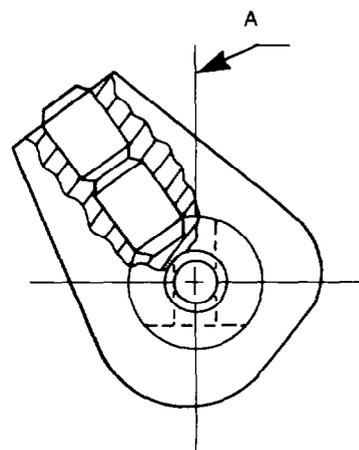

Figure 71 — Throttle Shaft Stop Lever Location
- c. If the throttle shaft stop lever was removed, position the stop lever on the throttle shaft, as shown in Fig. 71. Install and torque both set screws to 8-10 Nm (70-90 lb.in.)